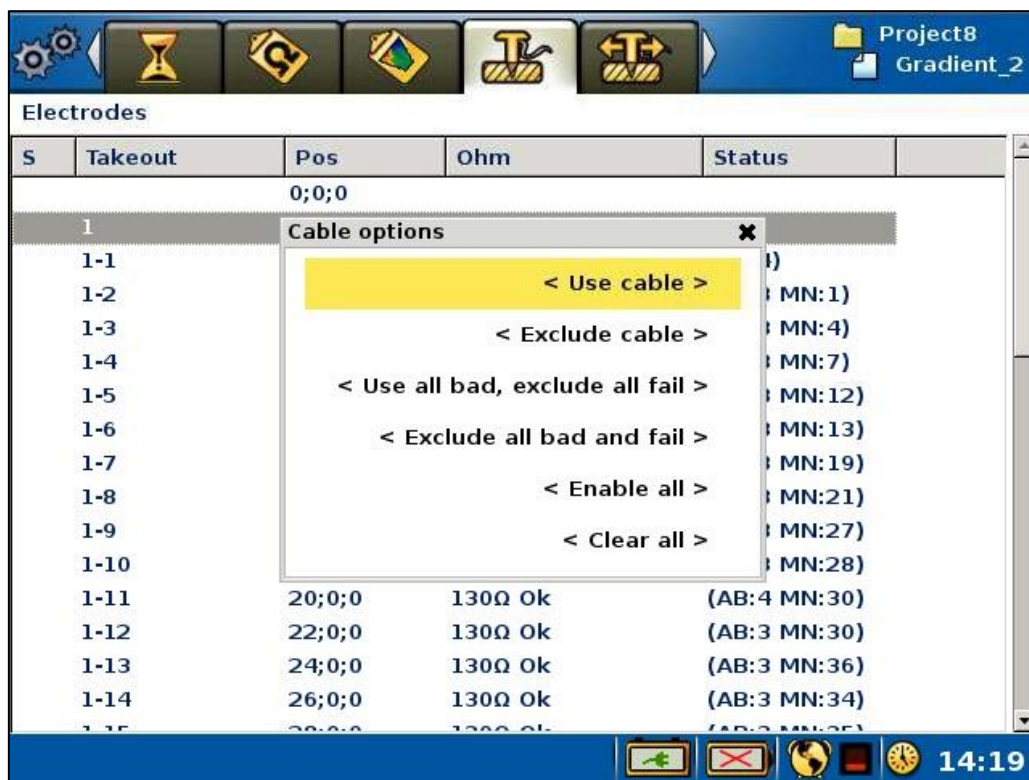

Figure 50 Exclude cable pop-up menu
- Highlight the <Exclude cable> / <Exclude electrode> *Menu Item* (Figure 50)